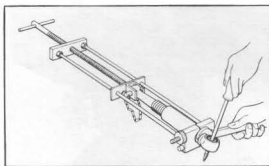

Fig. 72
- (1) Remove the rear cushion assembly by loosening the upper and lower cap nuts.
- (2) Disassemble the rear cushion component parts with the special tool as shown in Fig. 72. (Tool No. 07959-3290000)